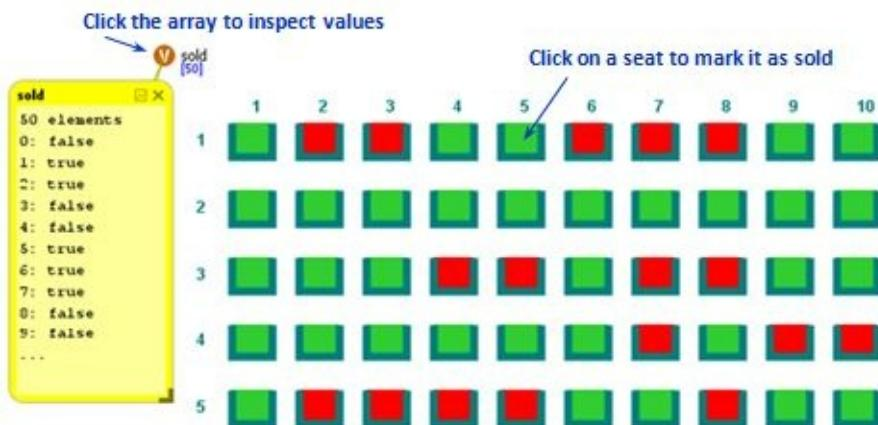

Figure 12.43 Interactive animation of seat selling process
1. Select the **Curve** shape in the drawing mode (see Section 12.1) and draw a flower petal approximately as shown in Figure 12.43. The center of the petal should be at $X = 200$, and the bottom – slightly lower than $Y = 150$.